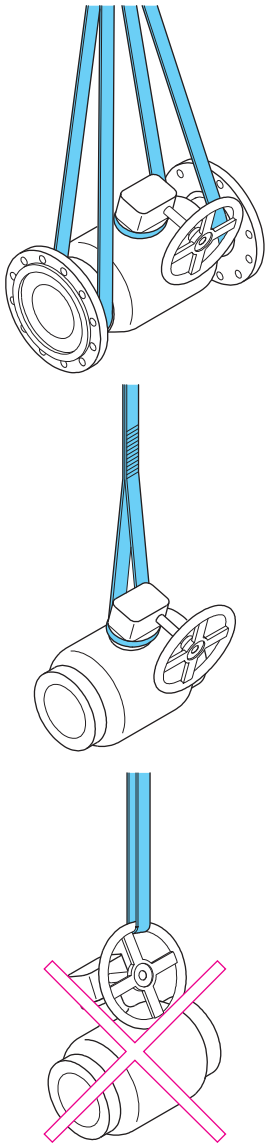

Figure 2. Lifting the valve \leq DN600 reduced bore.
Use lifting ropes when lifting the large size valves. It is forbidden to lift the valve by its actuator or stem (see Figures 2 and 3).
- Use one of the allowed lifting methods shown in Figures 2. and 3.